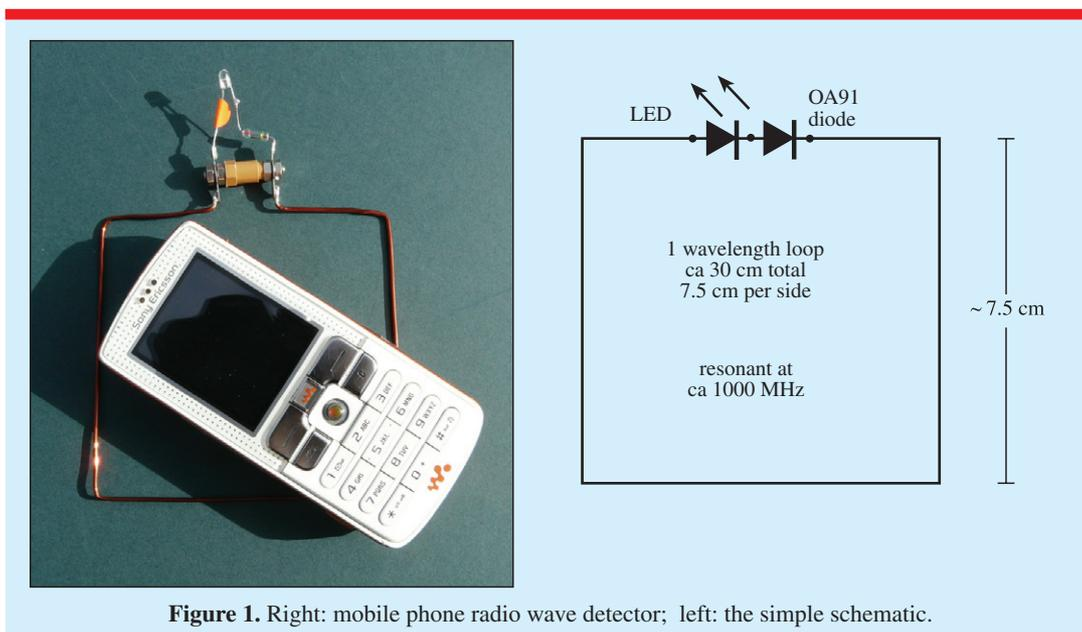

Figure 1. Right: mobile phone radio wave detector; left: the simple schematic.
a circular loop or rectangle will also work). If the wire is insulated remember to scrap off the insulation and solder-tin the ends. Simply solder the germanium diode and LED into the circuit as shown in figure 1. On a new LED the long lead is the positive (anode) while the short lead is the negative (cathode). The germanium diode has a line (band) around the end which is the cathode. When correctly wired the LED and the germanium diodes are connected so they both allow current to pass in the same direction, i.e. in the circuit diagram the arrows point in the same direction. In practice this means the LED and germanium diode are joined at the cathode of one and the anode of the other.
**Figure 2.** Three loops in a row of varying size. The one described here and shown in figure 1 is shown in the middle. The smaller one may well work better for higher frequencies such as the 3G networks (see below).
**Figure 3.** Adding a capacitor and coax (or twin) lead so that headphones, a meter or a datalogger can be connected (note that the diode is reverse wired compared to figure 1).